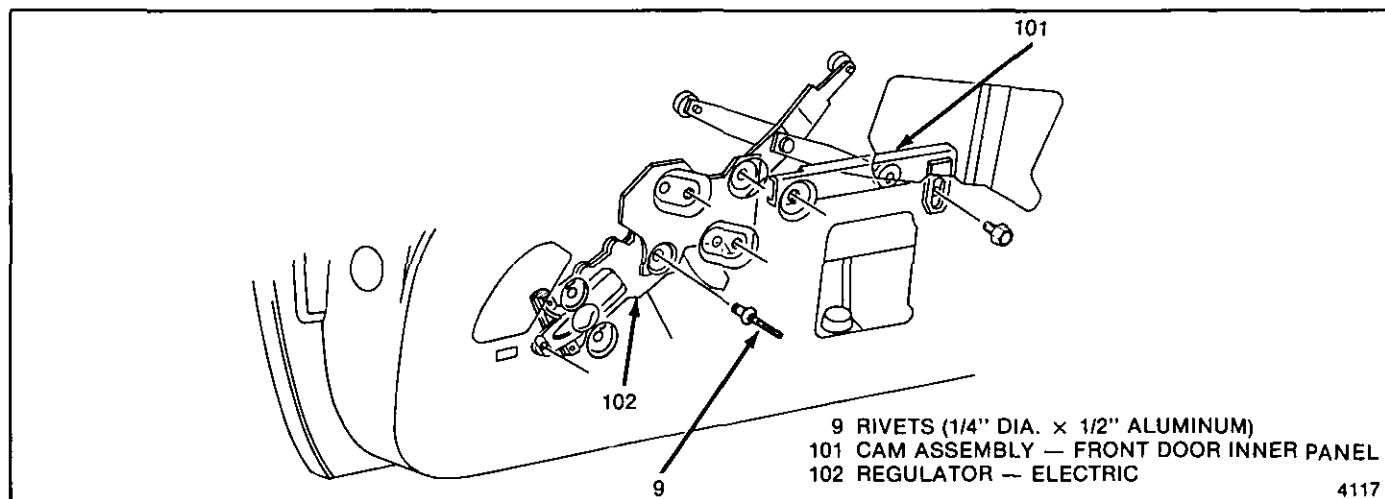

Fig. 5-25-Window Regulator Assembly - Electric
**Regulator Assembly - Power****Remove or Disconnect (Figure 5-25)**
3. Cam assembly - front door inner panel (101)
5. Rivets (9) - from regulator
7. Regulator - electric (102) through rear access hole
**↔ Install or Connect (Figure 5-25)**
1. Regulator - electric (102)
2. Rivets (9) - regulator to inner door
4. Cam assembly - front door inner panel (101)